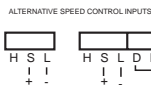

Fig. 2
- External control with a 0-5 volts or 0-10 volts signal is shown in Figure 2 with the external input signal between 'S' and 'L'. Connections to the drive are as in 1 and 2 above. Calibration is as follows: